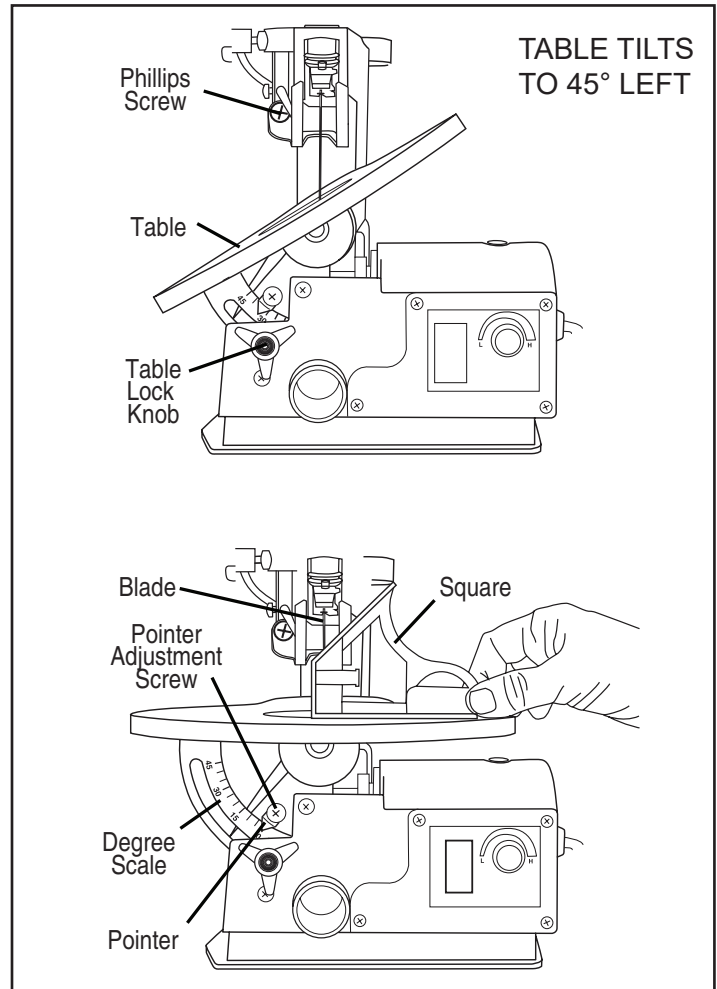

FIG. 2
- Release the star knob (A) and bring the saw table (B) to a right angle (C) in relation to the saw blade.
- Use a 90° angle gauge (not included) to measure the right angle between the blade and the bench. See Figure 2. The saw blade should be 90° to the angle.
- The saw table can be tilted up to a 45 degree diagonal position, see Figure 2, or be left in the horizontal position for your sawing needs.